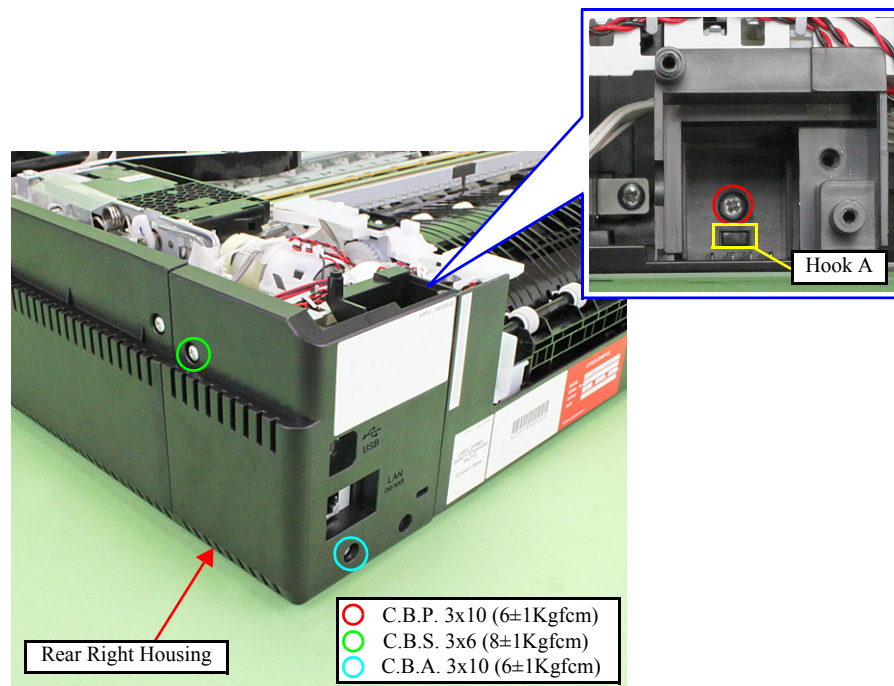
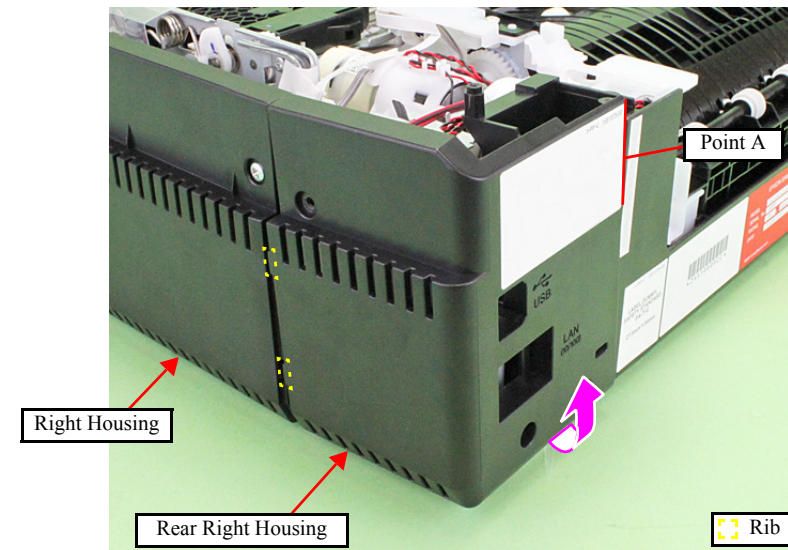

Figure 9-54. Removing the Rear Right Housing (1)
Figure 9-55. Removing the Rear Right Housing (2)
2. Release the hook A in Fig. 9-54, and also release the ribs (x2) on the right side in Fig. 9-55, then remove the Rear Right Housing by lifting it in the direction of the arrow.
- When installing the Rear Right Housing, insert the ribs (x2) of the Rear Right Housing to the inside of the Right Housing. (See Fig. 9-55.)
- When installing the Rear Right Housing, align the point A of the Rear Right Housing with the inside of the Base Frame. (See Fig. 9-55.)